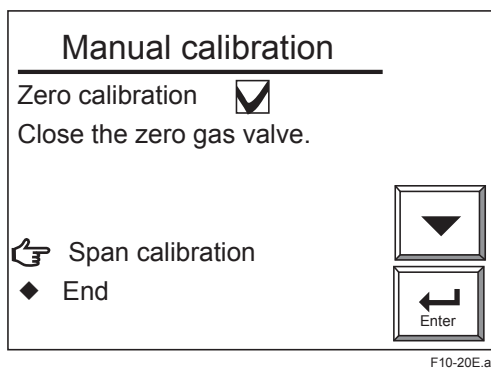

Figure 10.20 Zero-point Calibration Complete (in Manual Calibration)
- (2) Adjust the flow rate and select “Valve opened” in the Manual calibration display. Check the Trend graph display to see that the measured value is stabilized. Then press the [Enter] key. The Manual calibration display shown in Figure 10.20 appears.